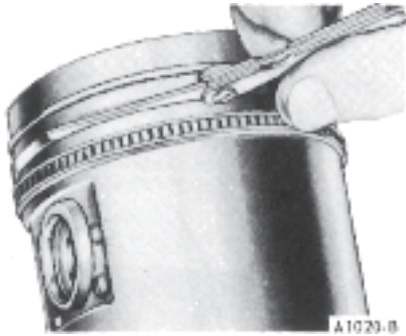

Fig. 34 Checking Piston Ring Side Clearance
6. Check the ring side clearance of the compression rings with a feeler gauge inserted between the ring and its lower land (Fig. 34). The gauge should slide freely around the entire ring circumference without binding. Any wear that occurs will form a step at the inner portion of the lower land. **If the lower lands have high steps, the piston should be replaced.**